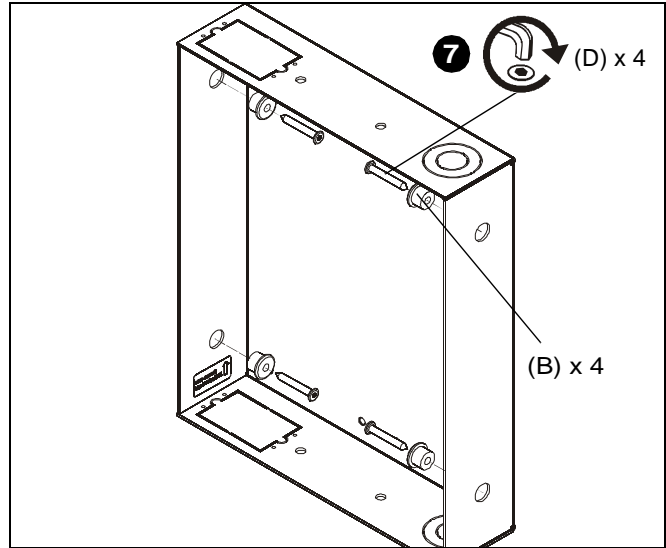

Figure 4
- Attach the TA502 (A) using four M7 x 50mm Allen head connector screws (D) and four spacers (B) into pilot holes using an M4 Allen head drill bit (F). (See Figure 4)